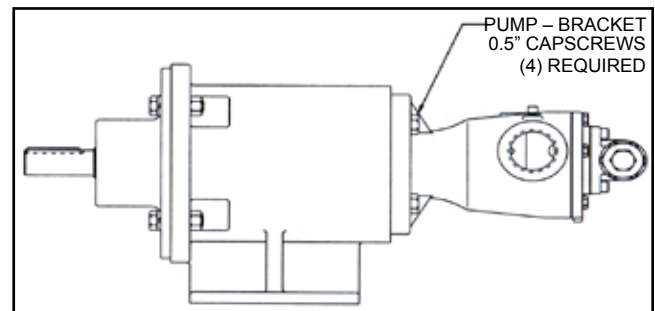

FIGURE 36
5. Be certain that the power supply to the pump is "Locked-out". Finish assembly by securing the pump to the bracket. **See Figure 36**. Check that pump rotates freely by spinning the motor fan blades or the bearing carrier shaft.